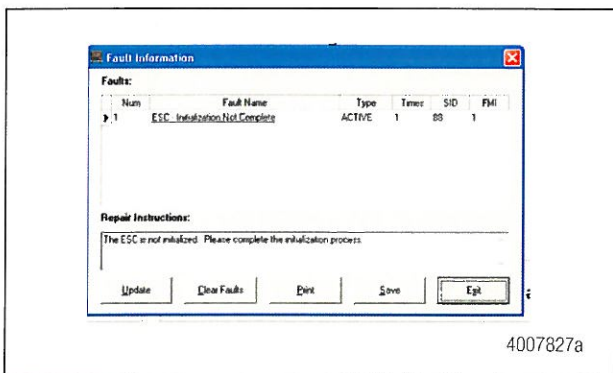

Figure 17
2. The message box should show the ESC Initialization Not Complete code 88-1. Verify the code is correct. Figure 17.